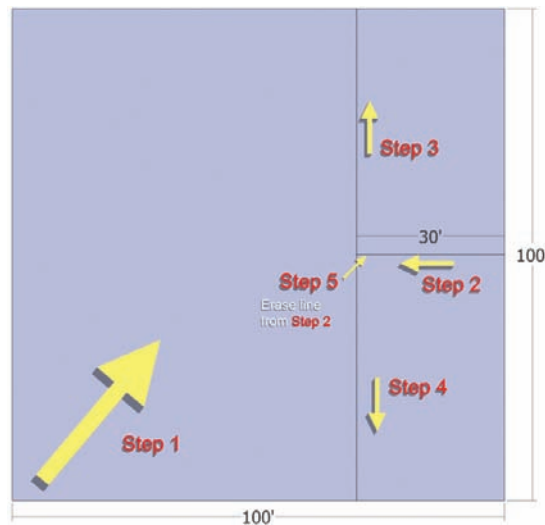

Fig. 6-7: Drafting the Flatwork Base and defining the road.
1. Draw the base (Fig. 6-7).
2. Define the road (Fig 6-7).